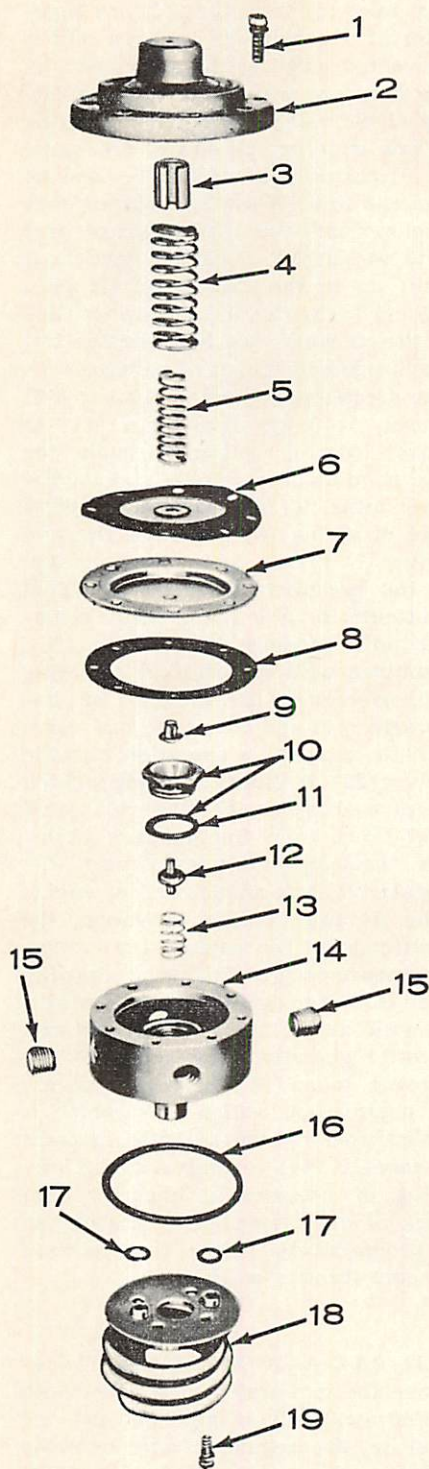
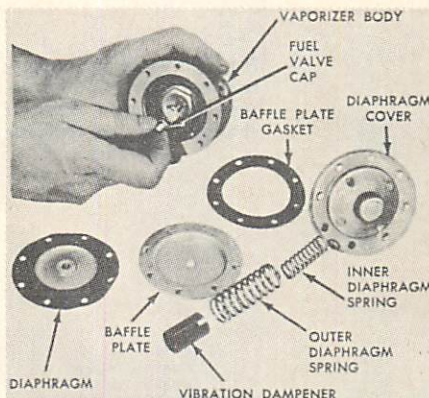
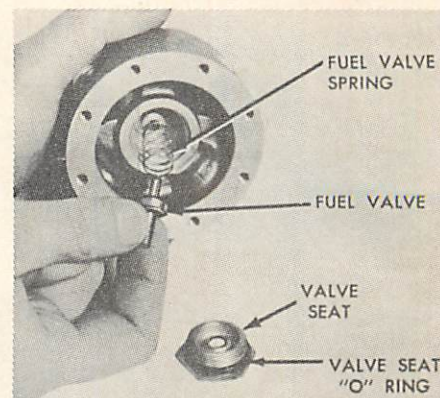

Fig. O68 — Exploded view of Zenith LP Gas vaporizer assembly.
Fig. O69 — Partially disassembled view of vaporizer assembly. Note fuel valve cap.
Fig. O70 — View showing fuel valve being removed from body.
Refer to Fig. O68 and proceed as follows: Remove the four cap screws and separate vaporizer coil and mounting plate assembly (18) from vaporizer body (14). Discard all three "O" rings. Remove any alternate four of the diaphragm cover screws and install in their place four aligning studs (Zenith No. C161-195, or equivalent). Maintain pressure on the diaphragm, remove the remaining four cap screws, then carefully release the pressure on diaphragm cover and remove cover (2), diaphragm springs (4 and 5) and vibration dampener (3). Remove studs; then remove diaphragm (6), baffle plate (7), baffle plate gasket (8) and fuel valve cap (9) as shown in Fig. O69. Use a 1-inch socket wrench and remove valve seat (10—Fig. O68), fuel valve (12) and spring (13) as shown in Fig. O70.
94. To reassemble, proceed as follows: Place fuel valve spring (13— Fig. O68) over boss in center of vaporizer housing (14), then place fuel valve (12) on spring with shortest stem toward housing. Be sure spring is resting on machined shoulder of fuel valve, then with new "O" ring on valve seat (10), install valve seat in vaporizer body and tighten. Place fuel valve cap (9) over the protruding fuel valve stem. Reinstall the aligning studs in four alternate holes in top of vaporizer body, then install new baffle plate gasket (8), baffle plate (7), with recessed side toward body, and diaphragm (6), with flanged disc away from body. Be sure fuel valve cap enters center hole of baffle plate. Place vibration dampener (3) inside the outer diaphragm spring (4). Place inner diaphragm spring (5) over center of diaphragm plate, then install outer spring over the inner spring. Place diaphragm cover (2) over aligning studs and depress cover until cap screws can be installed in the remaining four holes. Continue to depress the diaphragm cover and seat the cap screws lightly. Remove the aligning studs and install the remaining four cap screws. Tighten all the cap screws evenly and to a moderate tightness. Install a new "O" ring (16) on vaporizer body and two new "O" rings (17) on ends of vaporizer coil. Align mounting holes and install coil and mounting plate assembly (18) to vaporizer body.